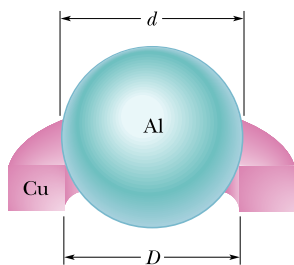

Figure 18.13 Problem 42.
**42 H** A 20.0 g copper ring at  $0.000^\circ\text{C}$  has an inner diameter of  $D = 2.54000$  cm. An aluminum sphere at  $100.0^\circ\text{C}$  has a diameter of  $d = 2.54508$  cm. The sphere is put on top of the ring (Fig. 18.13), and the two are allowed to come to thermal equilibrium, with no heat lost to the surroundings. The sphere just passes through the ring at the equilibrium temperature. What is the mass of the sphere?